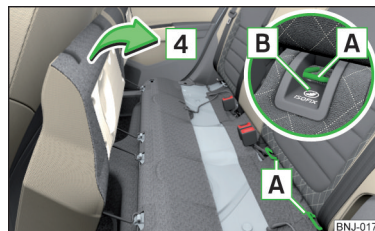

Fig. 61
- Fold the backrest in the direction of the arrow **4** » Fig. 61.